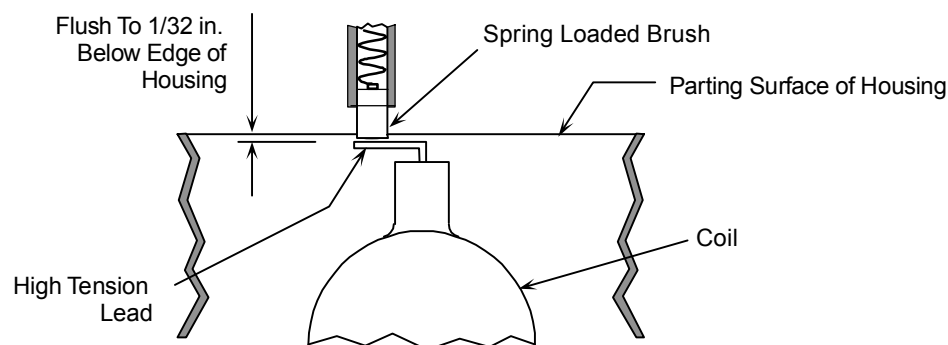

Figure 9.7
- C. Drive the two wedges (22) tight, using a hammer and flat punch.
- D. Position the coil (21) high tension lead flush to 1/32 inch below the parting surface of the magneto frame (8). (See Figure 9.7).